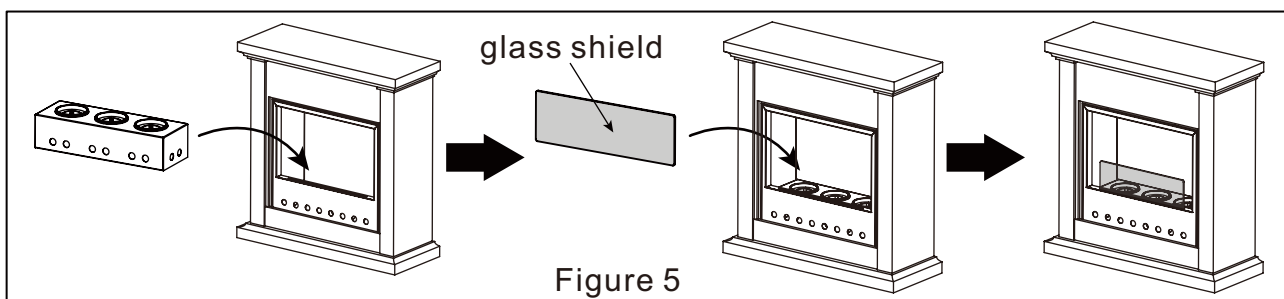

Figure 5
(2). Place the fire bowl at the bottom center of the fireplace body, then insert the glass shield into the groove carefully and tenderly, make sure it stands straight upward (see Figure 5).